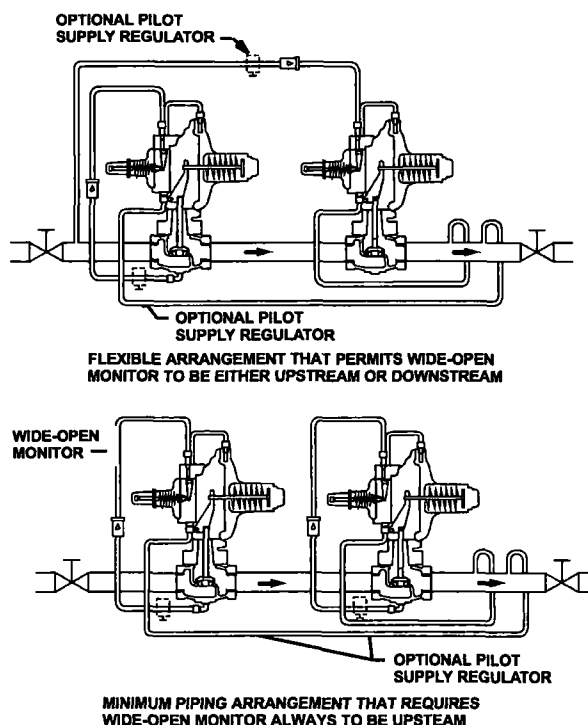

Figure 4. Typical Wide-Open Monitor Installations
- **Wide Open Monitor**— The control line of the upstream regulator is connected downstream of the second regulator (figure 4), so that during normal operation the monitoring regulator is standing wide open with the reduction to distribution pressure being taken across the working regulator. Only in case of open failure of the working regulator does the wide-open monitoring regulator take control at its slightly higher setting.